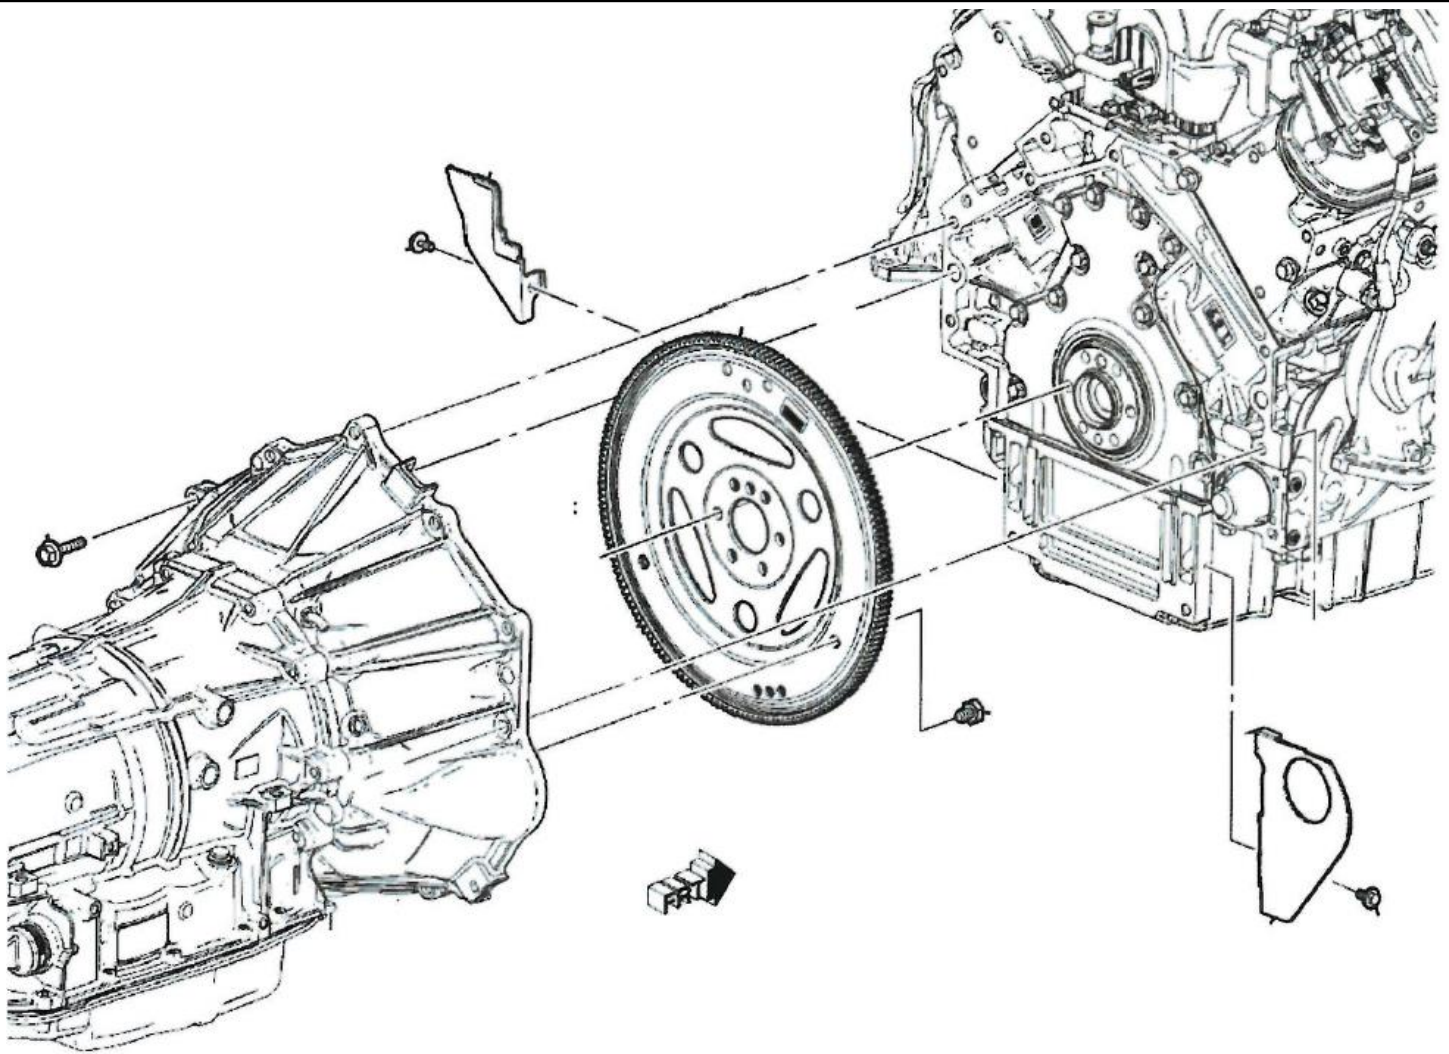

FIGURE 1
3. Install transmission to engine using 8 11515768 bolts as shown in Figure 1. Install bracket from transmission kit under center top bolt to facilitate holding vent tube (part of transmission kit). Torque to 58 Nm (43 lb-ft).